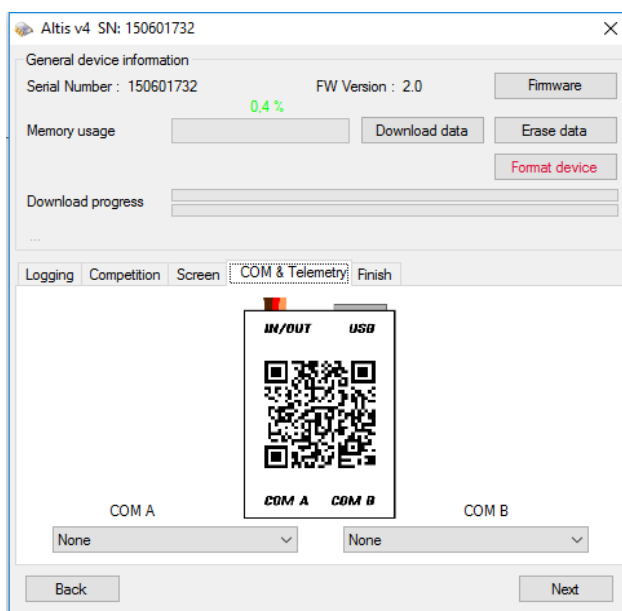

Fig 12: COM A / COM B Telemetry, Keypad or Live output settings
Com A/B ports (Fig 12) – You can assign a function for the selected port. Currently there are telemetry, keypad or live output options. These ports are reserved for other future uses.
- Configure COM A port to KeyPad mode in the corresponding window shown in Fig 12.